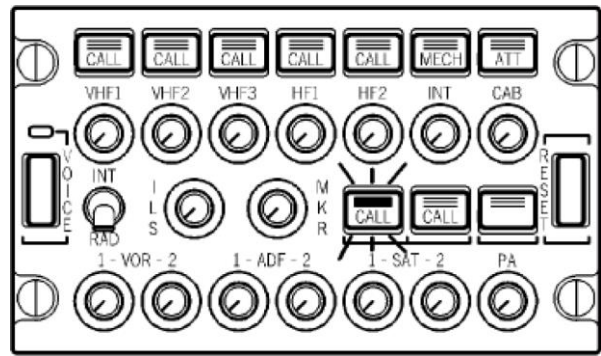

Figure 7-19: ACP - Call terminating - Flashing amber
- The ACP SAT call button flashes green while the call termination is in progress (Figure 7-19).